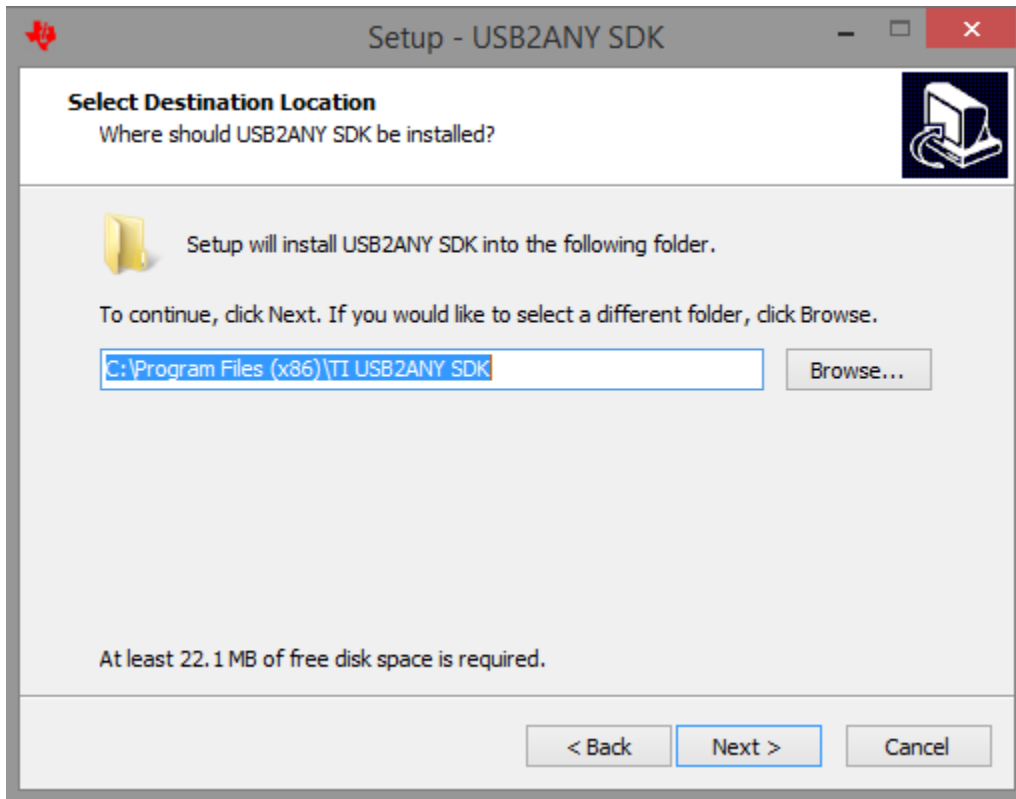

Figure 1-16. USB2ANY Installation Folder
- Set the destination directories for the PGA900 GUI installation and click the **Next >** button as shown in Figure 1-16.